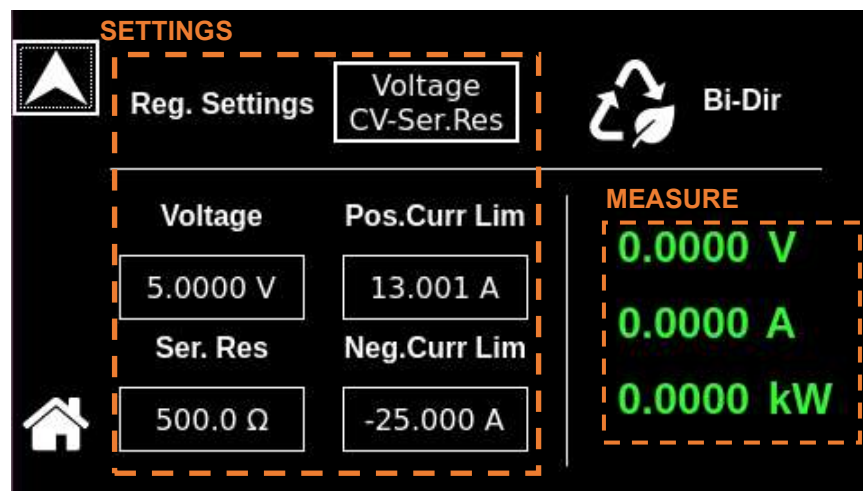

**Figure 8-9. Dashboard Screen in CV-Ser. Res Mode**
a) **Voltage** - CV-Ser. Res Regulation setting is shown in Figure 8-9,